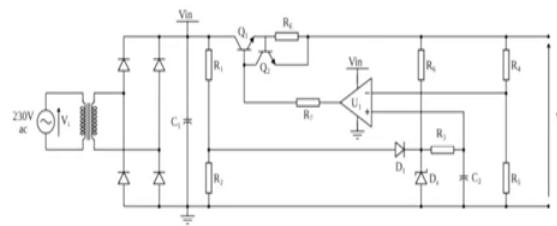

Figure 1: Current limited linear discrete voltage regulator
The circuit shown in figure 1 is that of a current limited discrete voltage regulator. Perform the following tasks with respect to this circuit:
2. Write down the specifications required for the regulator. Design and select the components for the circuit given in figure 1. (Do the design in .m file)